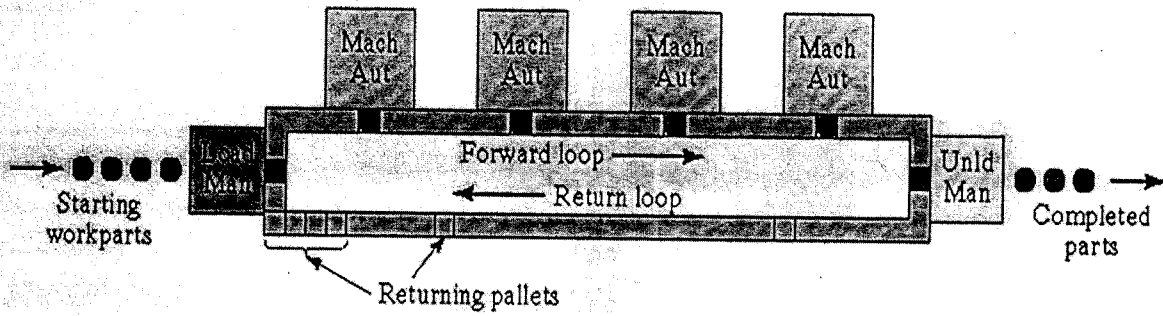

Figure 1
4. Name the FMS Layout Configuration given in figure 1. (C.O.NO.2) [Application]